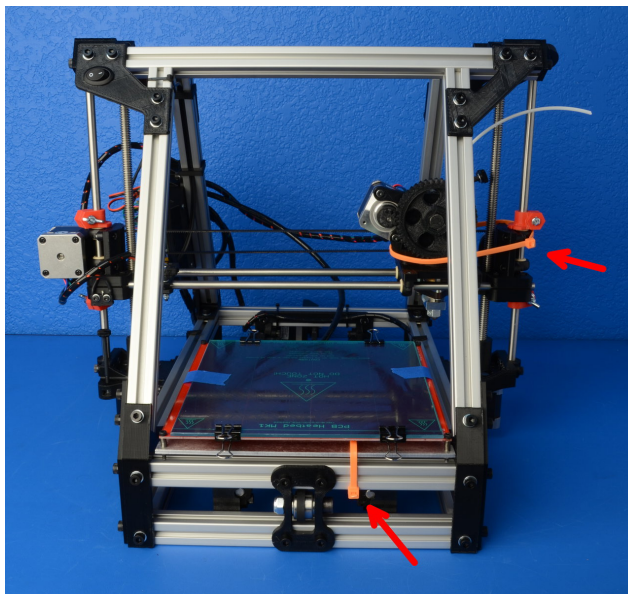

Figure 1.2: Orange Zip Ties
8. Using scissors or wire cutters, cut and remove the two ORANGE plastic zip ties (Fig. 1.2, page 13). One zip tie is located on the